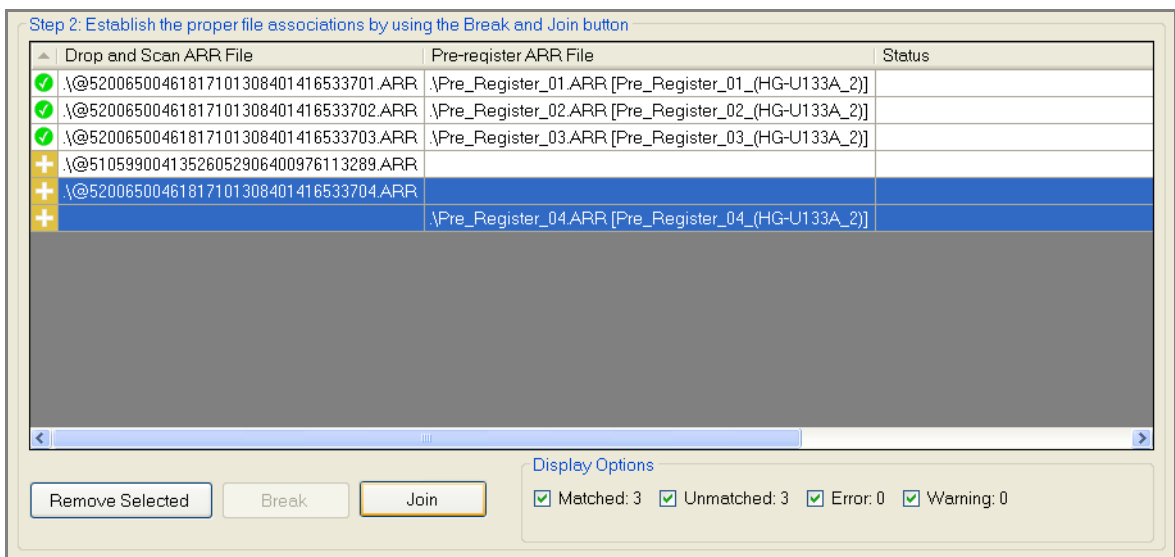

Figure 3.24 Files selected for joining.
- To select files, press the Ctrl key while you click the items (Figure 3.24).